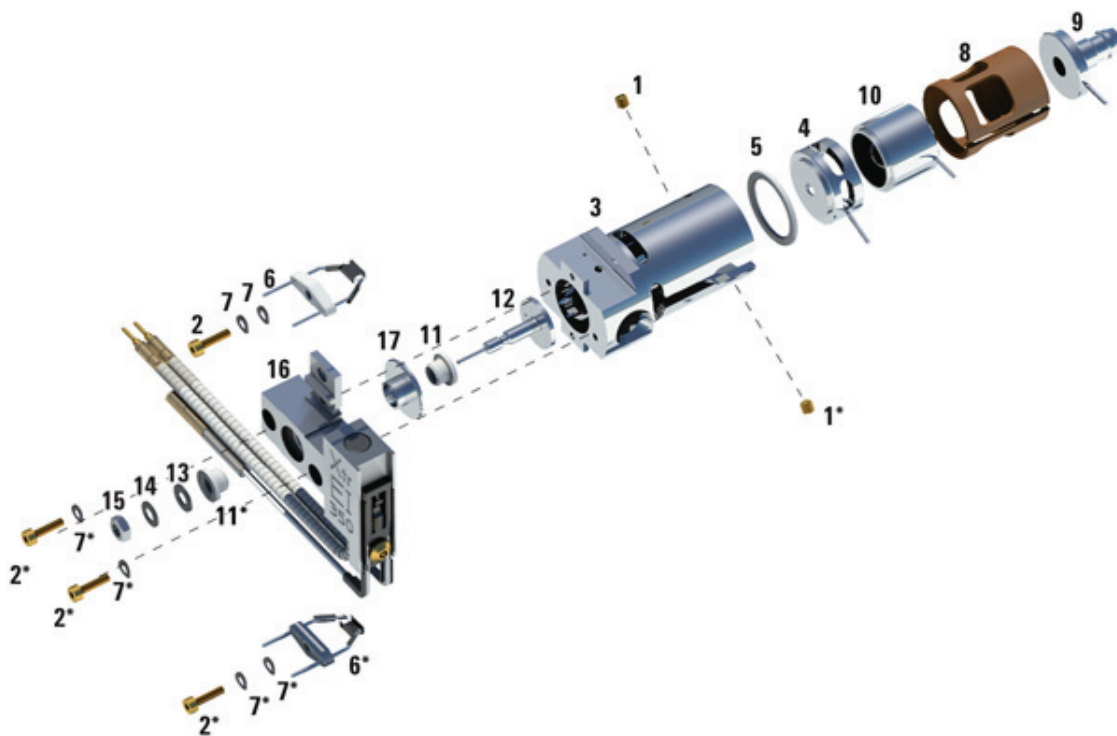

Figure 57. Disassembling the EI XTR source
Refer to the exploded parts view **Figure 57** and the EI EXT parts list **Table 20** on page 176 while using this procedure.
**Table 20** Parts list for EI XTR source (Figure 57)
**Table 20** Parts list for EI XTR source (Figure 57) (continued)